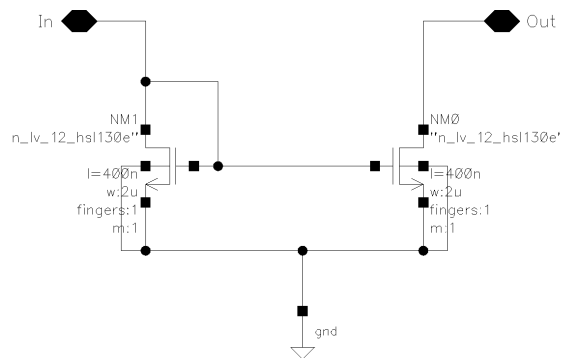

Figure 6: Current Mirror with N-type MOSFETs.
1. Create a schematic of the current mirror in the same way as for the inverter. A suitable name is *currentmirror*. The transistors should be of n-type and have the size $W/L = 2\mu\text{m}/0.4\mu\text{m}$. Put pins of *inputOutput* type on the drain nodes of the transistors, as in figure 6.